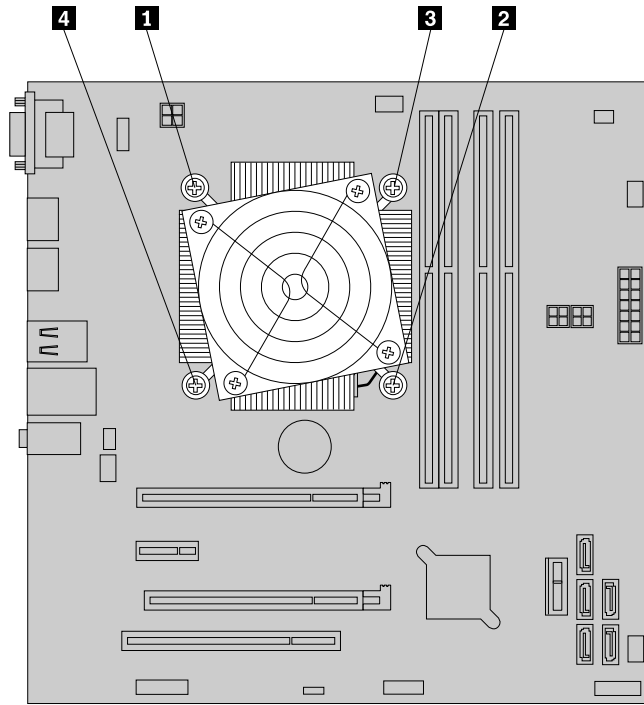

Figure 58. Removing the heat sink and fan assembly
9. Follow this sequence to install the four screws to secure the new heat sink and fan assembly. See Figure 58 “Removing the heat sink and fan assembly” on page 75.